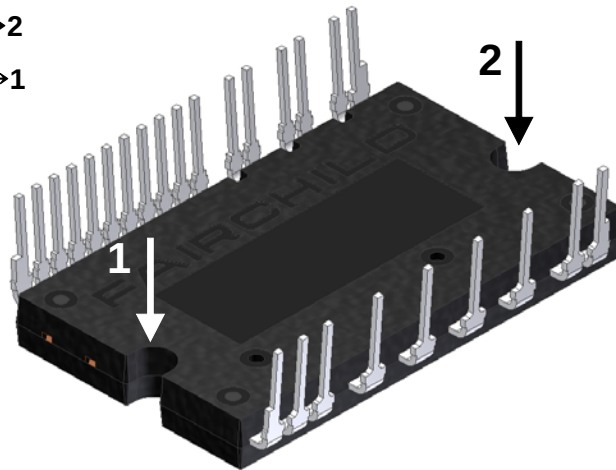

Figure 10. Mounting Screws Torque Order
- Avoid one-sided tightening stress. Figure 10 shows the recommended torque order for mounting screws. Uneven mounting can cause the ceramic substrate of package to be damaged. The pre-screwing torque is set to 20 ~ 30% of maximum torque rating.